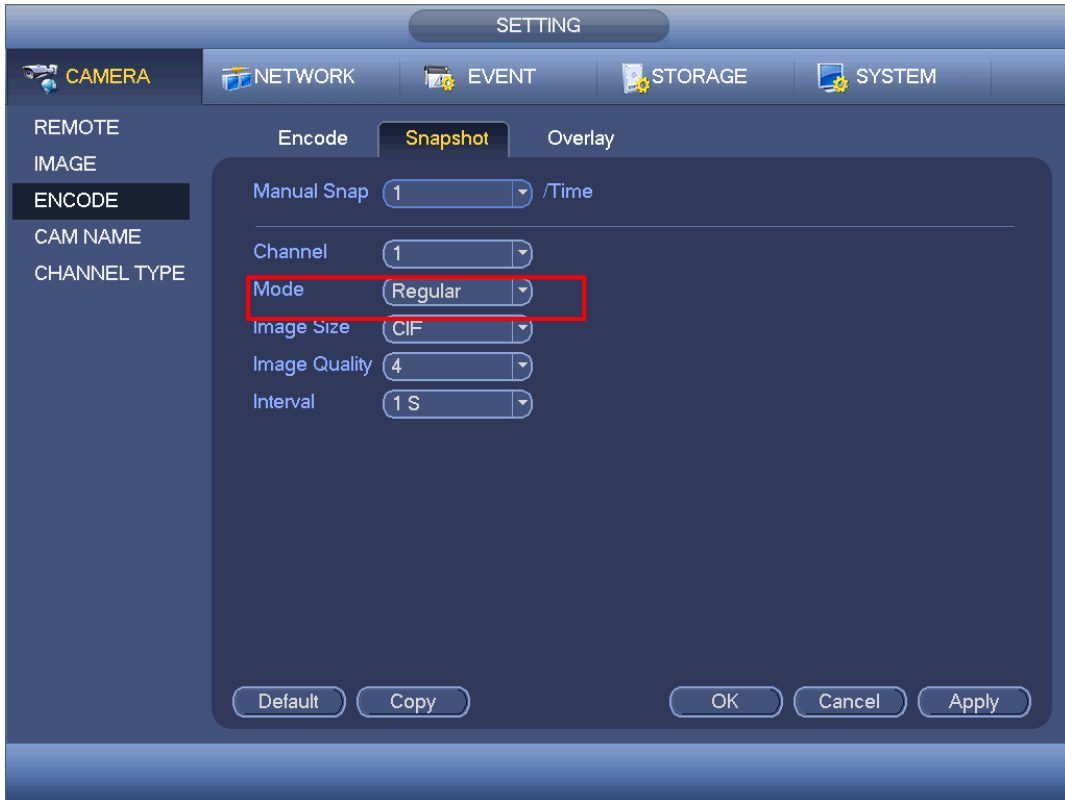

Figure 4-175
- In main menu, from Setting->Camera->Encode->Snapshot interface, here you can input snapshot mode as regular, size, quality and frequency. See Figure 4-175.